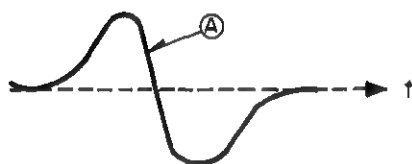

Fig. 6-6 S curve
- Output voltage (21) changes as negative → positive at this time.
- Further, the S curve of focus changes as shown in Fig. 6-6.
Focus servo is applied with point (A) shown in Fig. 6-6 as the actuation point. In general, the time when focus search is made and the focus servo switch is ON during passage through point (A). Furthermore, ANDing is made with focus OK signal (FOK) in order to prevent maloperation.